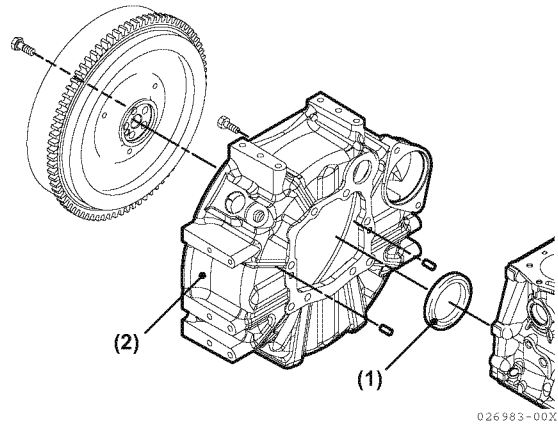

Figure 6-61
- Remove the rear oil seal (**Figure 6-61, (1)**) from the flywheel housing (**Figure 6-61, (2)**).
- Install a new seal in the flywheel housing (**Figure 6-61, (2)**) with the lip facing in away from the flywheel. Apply lithium grease to the lip of the seal.